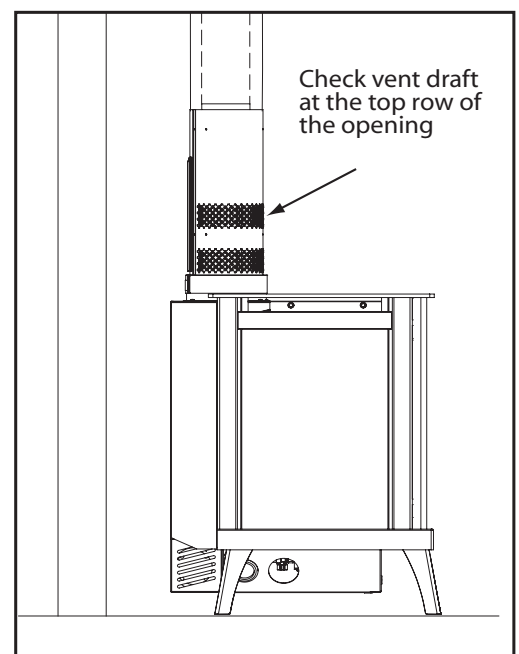

Figure 34: Draft test place.
4. After a minimum of 10 minutes operation, test the chimney draft with a smoke match at the top row of the pattern to confirm that there is adequate draft or 'pull' at the openings around the body of the Drafhood Adaptor, as shown in Figure 34.